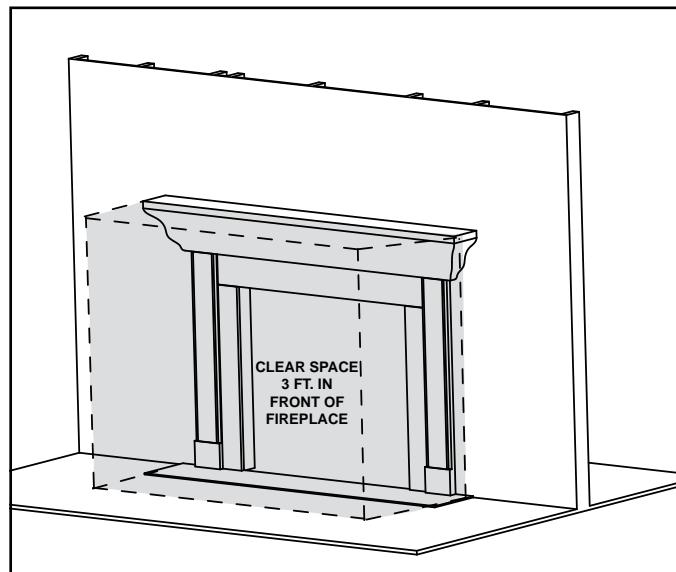

Figure 3.1 Clear Space Requirement - All Models
**WARNING! DO NOT place combustible objects in front of the fireplace or block louvers. High temperatures could start a fire. See Figure 3.1.**